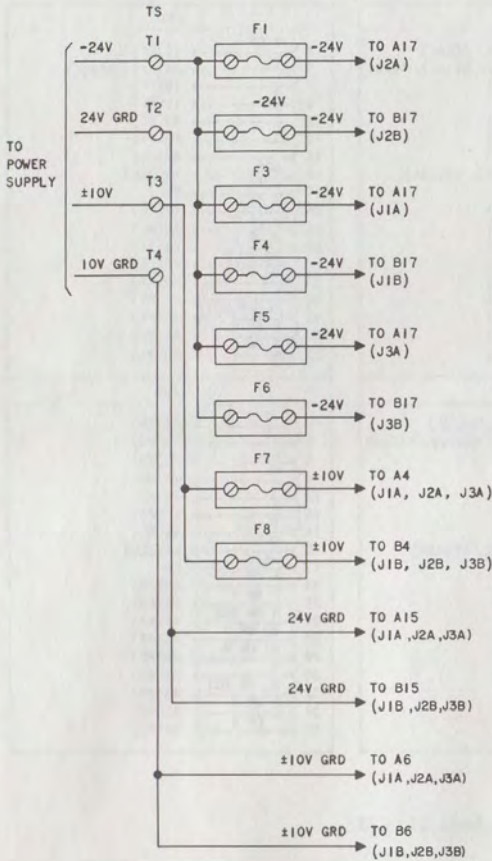

Fig. 5—Fuse and Power Distribution
2.05 The fuse and power distribution is shown in Fig. 5 and Table B. The 606A panel is designed to be powered by a -24 volt power supply and a 10 volt ac lamp supply.
4.02 Refer to Fig. 5 and Table C for connections to power supplies.